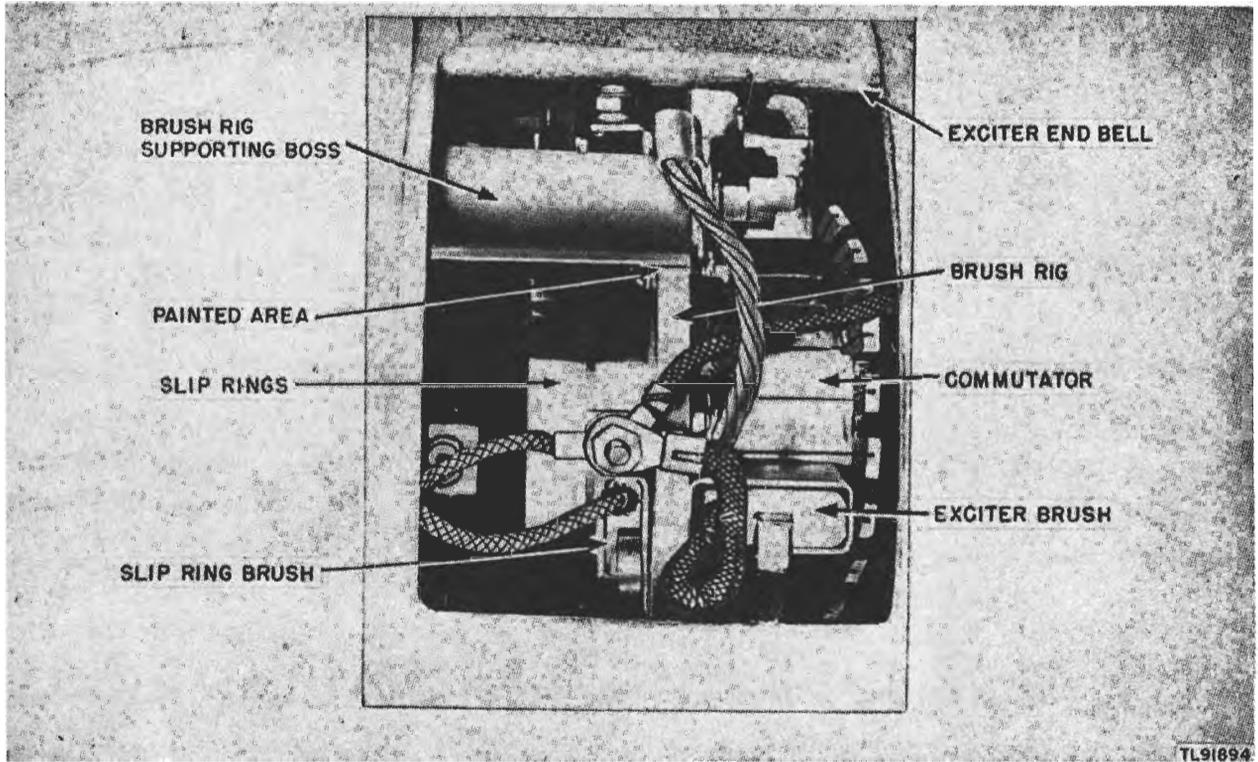

Figure 52. Neutral position of exciter brushes.
(4) The edge of the exciter brush has a small indentation that coincides with the edge of the upper left supporting boss when the ring is in proper neutral position (fig. 52).